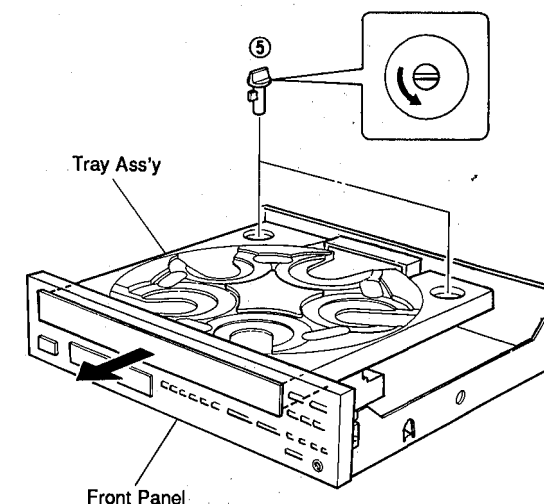

Fig. 6
- Turn the stopper/tray pin (⑤) counterclockwise by 90° degrees to pull it out as shown in Fig. 6.
- Slowly remove the Tray Ass'y as shown in Fig. 6. Remove connector #4 from the Main Circuit Board.